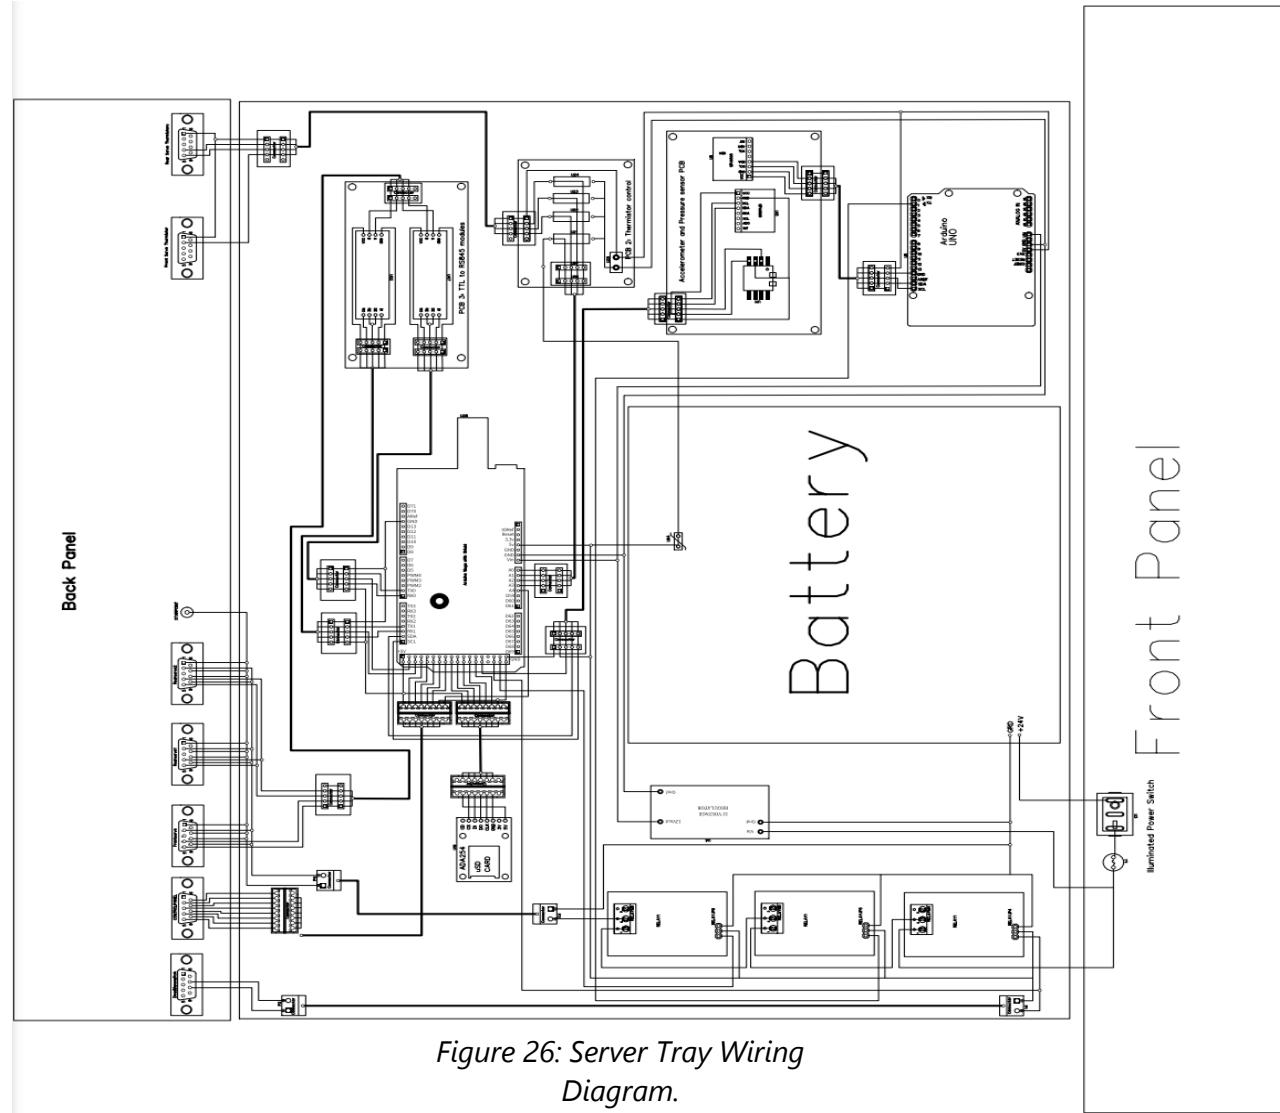
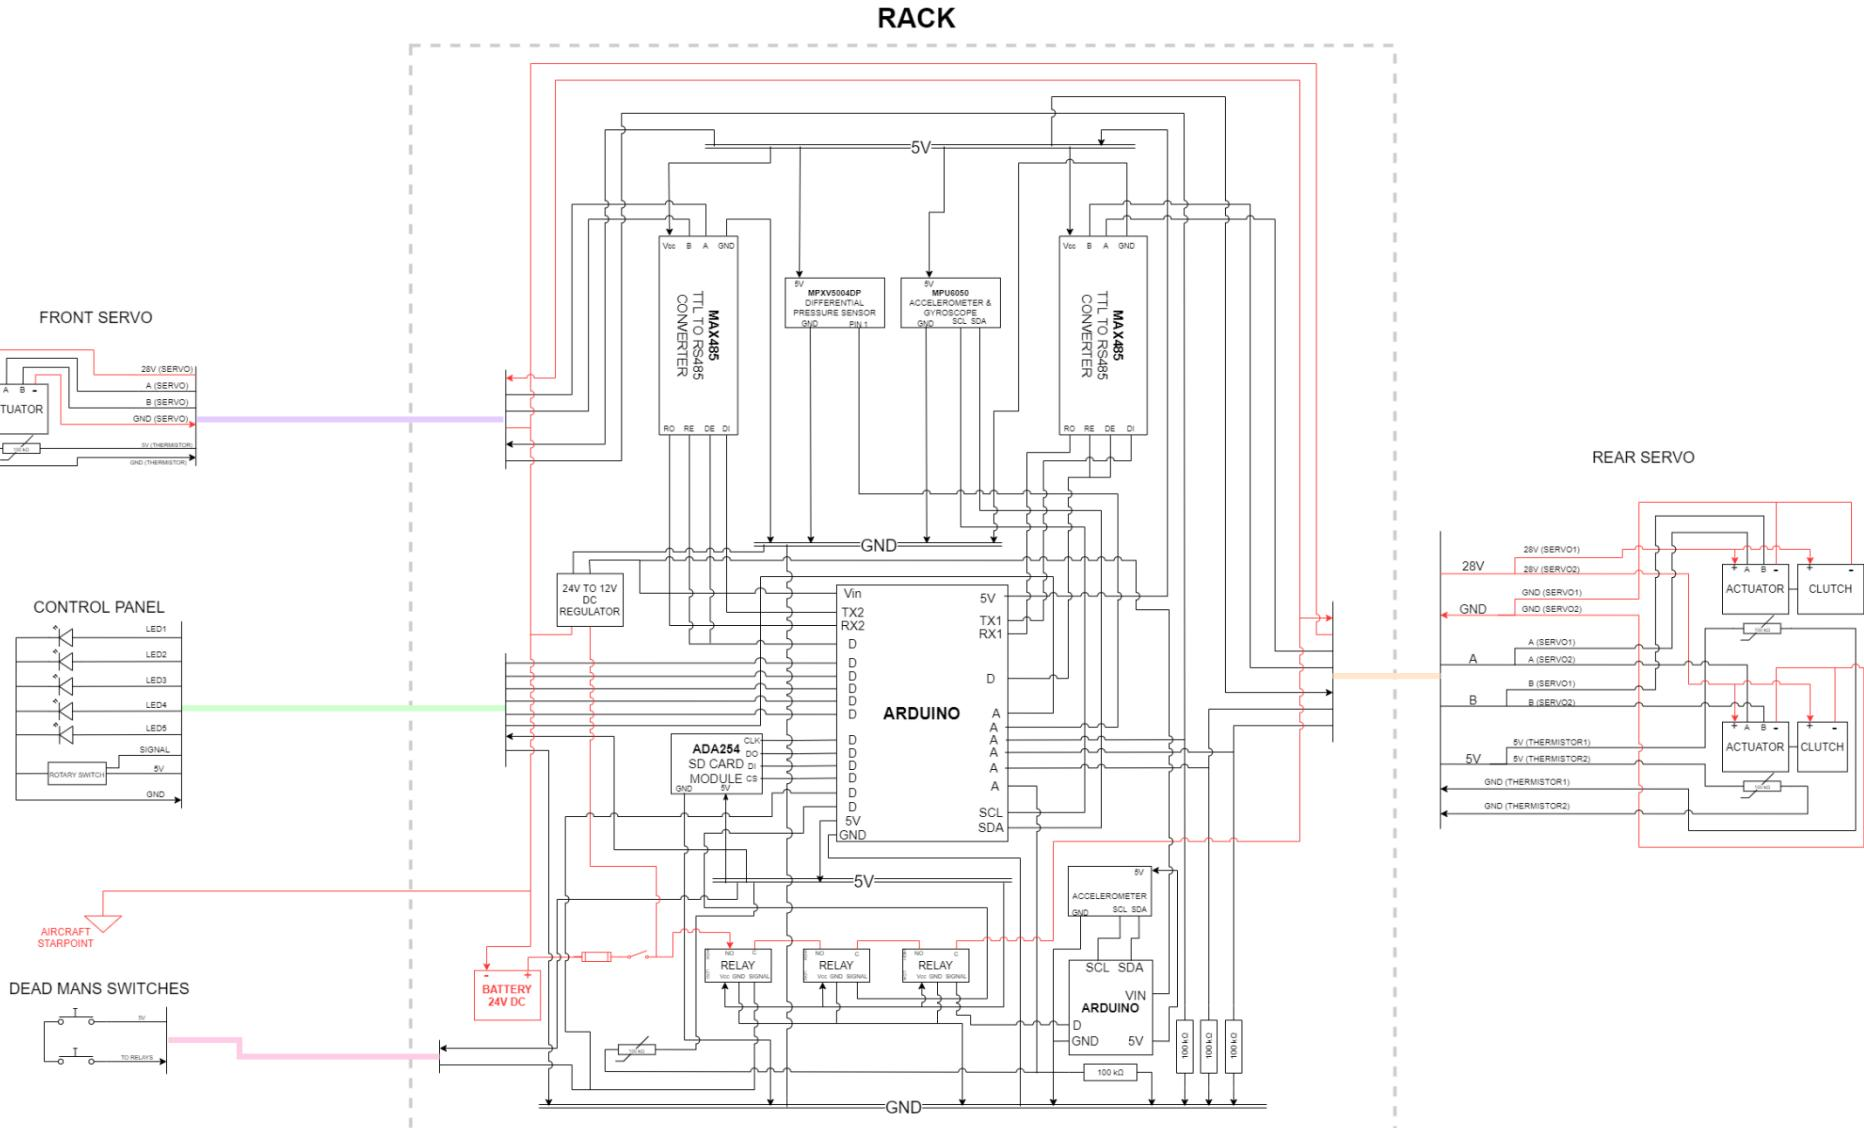
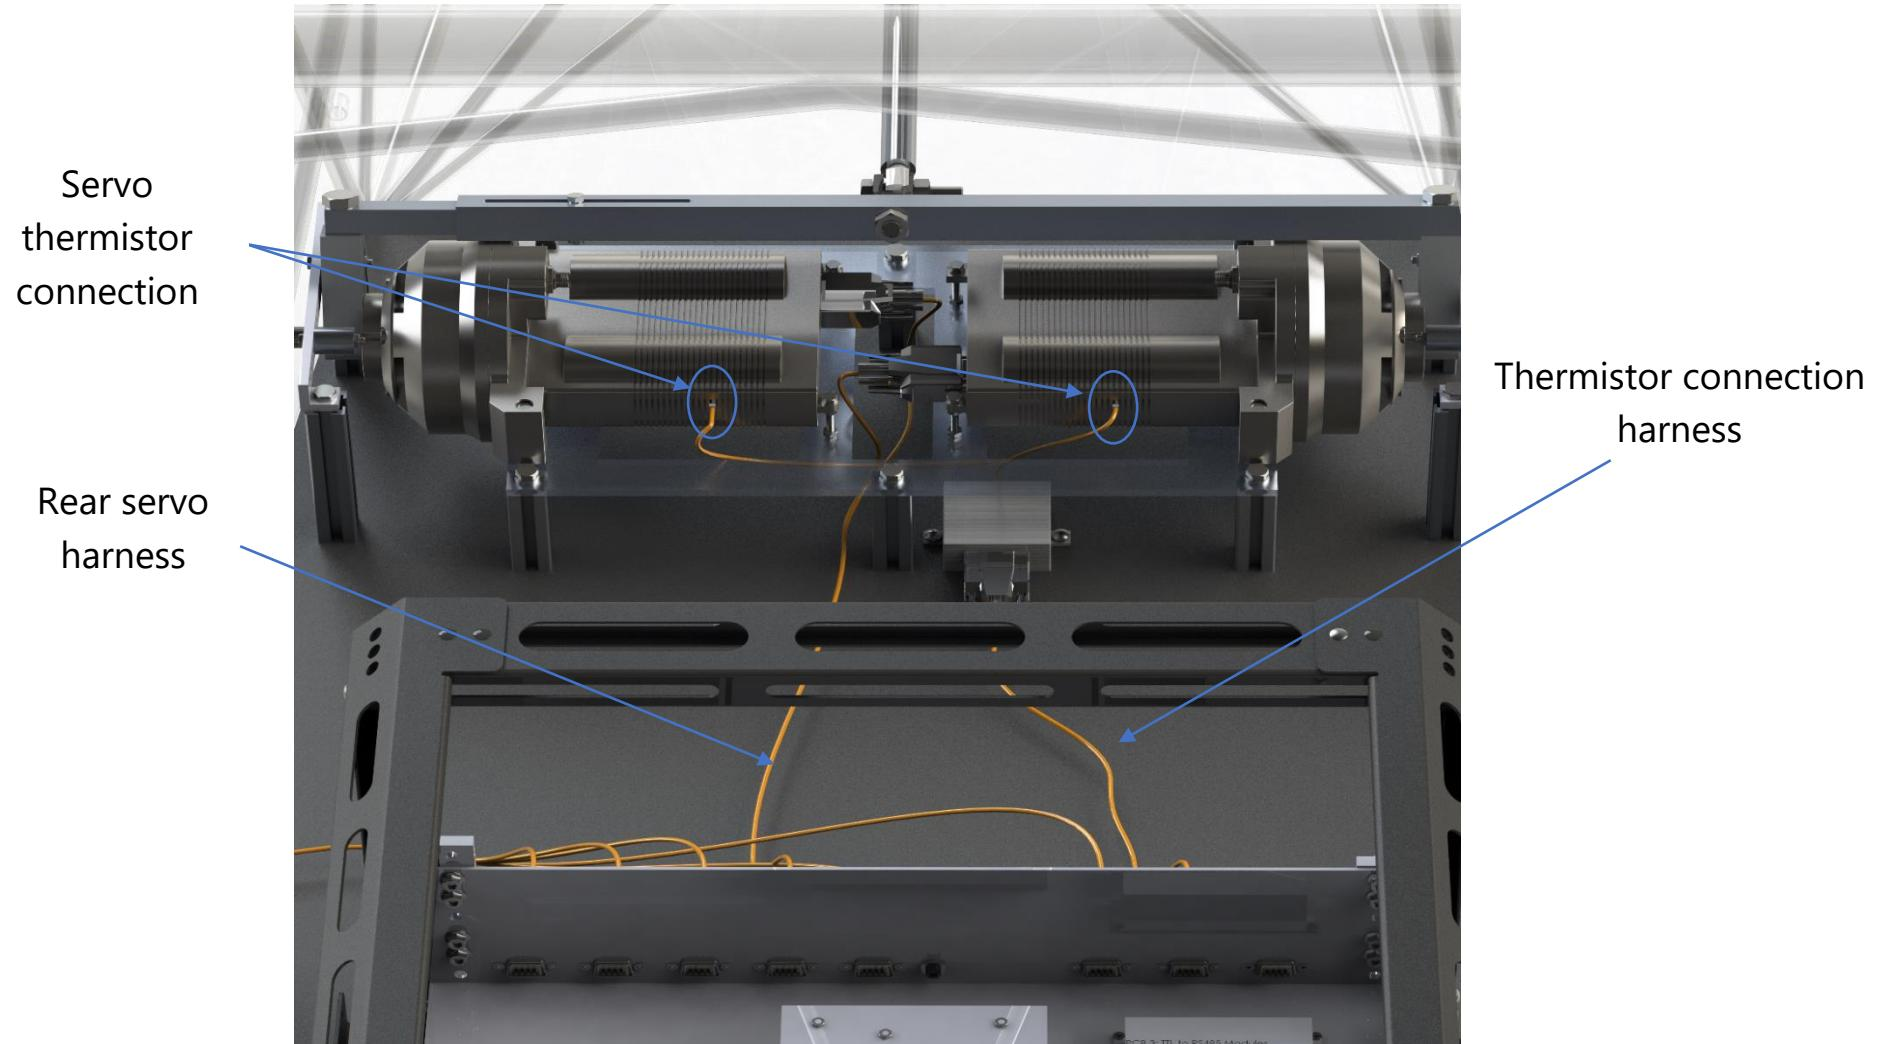

Figure 26: Server Tray Wiring
Figure 27: Server rack electrical schematic.
Figure 39: Routing diagram of the rear servos and thermistor from server rack.
The wiring diagram and wiring schematic for the server tray is shown in Figure 26 and Figure 27 respectively.
- All wiring joints on Figure 26 should be joined using 3-way connectors and insulated using heat shrink insulation.
- All thick wires shown in Figure 26 represent wires bundled together and should be bundled together using cable ties and secured over long distances to the tray itself.
Figure 34, Figure 35, Figure 36, Figure 37, Figure 38 and Figure 39 show the planned routing of the wiring harness through the aircraft and should be read along with the wiring diagram in Figure 26.